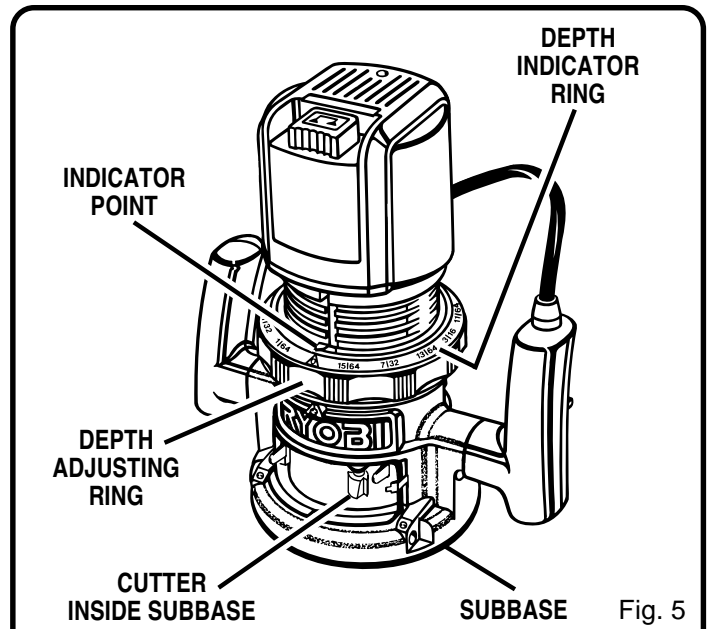
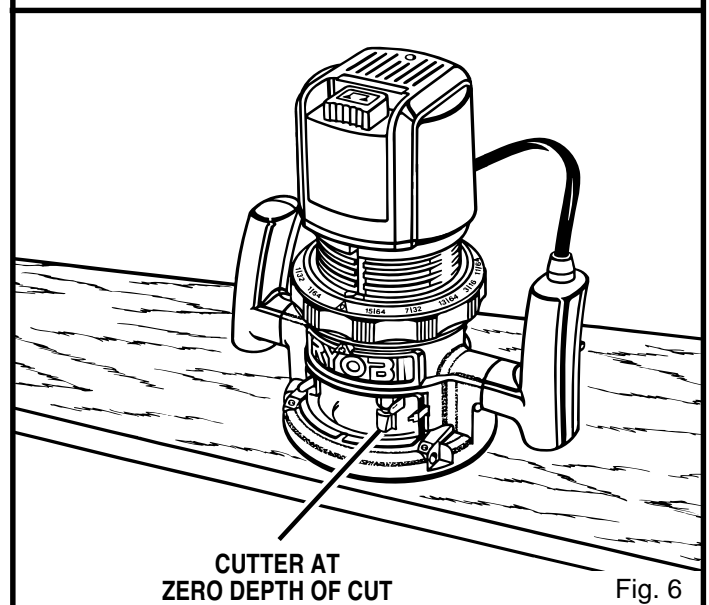

Fig. 5
Fig. 6
- Turn the depth adjusting ring until tip of cutter touches flat surface (zero depth of cut). See Figure 6. Next turn depth indicator ring until the zero lines up with the indicator point on front of motor housing. See Figure 5.